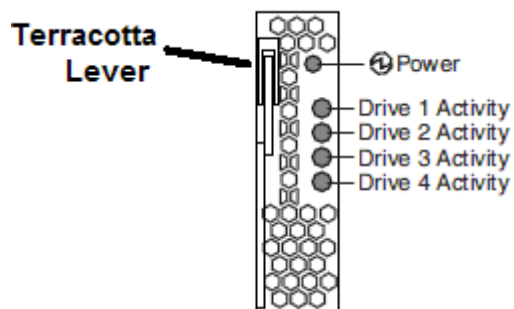

Figure 23 Drive Carrier LEDs Drawing
- c. Verify the green Drive Carrier power LED is off. Do not remove the Drive Carrier if its power LED is on. If the power LED is illuminated at least one hard drive or SSD is active. Removal of the carrier while any drive is active may BRING DOWN THE FILESYSTEM. Make sure all green drive activity LEDs on the Drive Carrier are off before removal of the Drive Carrier (see **Error! Reference source not found.**Figure 23).